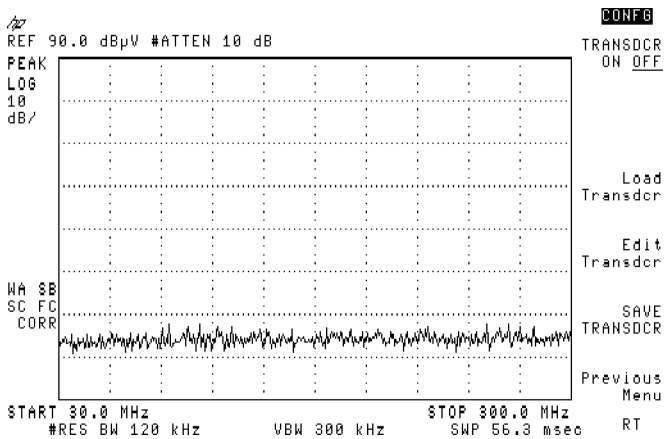
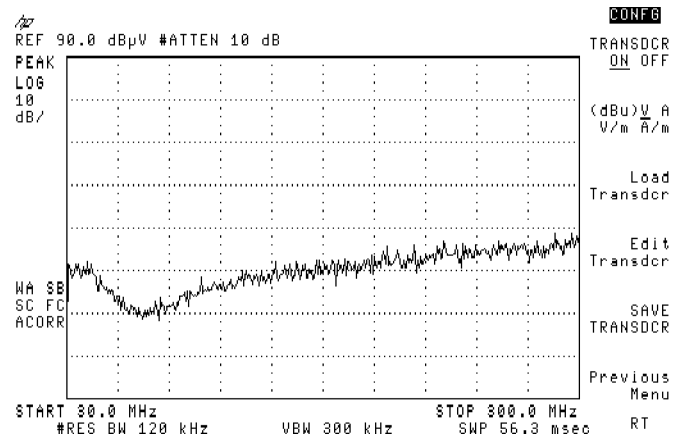

Figure 4-2. Transducer Turned Off (No Input)
Figure 4-3. Transducer Turned On (No Input)
Function	<p>TRANSDCR ON OFF turns the current transducer correction factors on or off. ON will be underlined when the transducer correction factors are being applied. OFF is underlined when transducer correction factors are not activated. At any time, you can determine from the display whether the transducer factors are on. If correction is off and ampcor (A) is on, then only an A will be displayed on the lower left of the CRT. See Figure 4-2 and Figure 4-3.</p> <p>Refer to “Loading, Editing, Creating, and Storing Transducer Factors,” Chapter 3, for more information about transducer factors.</p>